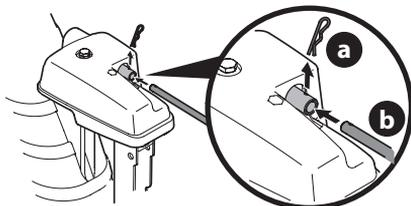

Figure 17
5. Remove hairpin clip (a) from rear of chute control head (Figure 17).
6. Insert chute control rod (b) into rear of chute control head (Figure 17) and secure with hairpin clip (a) removed in Step 5.